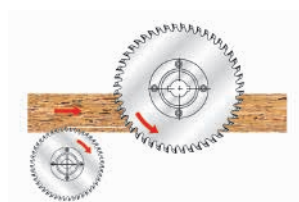

Fig.1 Scoring blade / Shredder
- For work combined with hoggers (*fig1*).